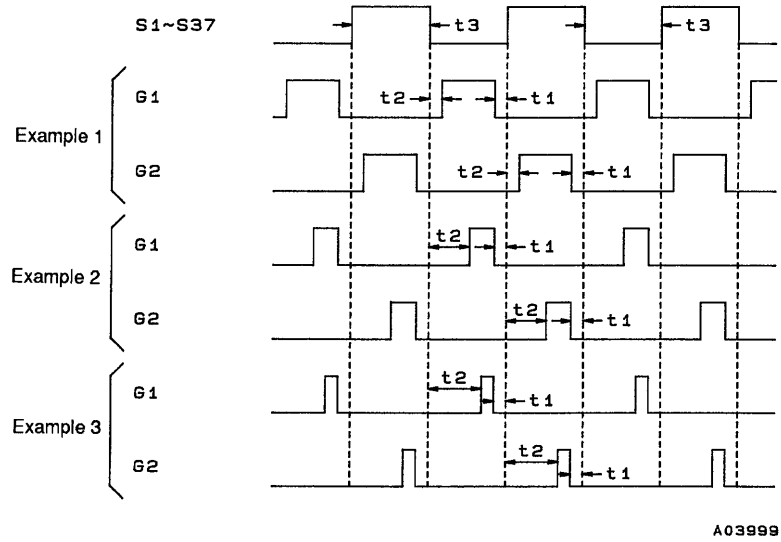

Figure 4
1. Consider the examples shown in Figure 4, where data is set up so that the segment outputs S1 to S37 output a low level on the G1 digit output timing and a high level on the G2 digit output timing. (Here, the G2 side being lighted)